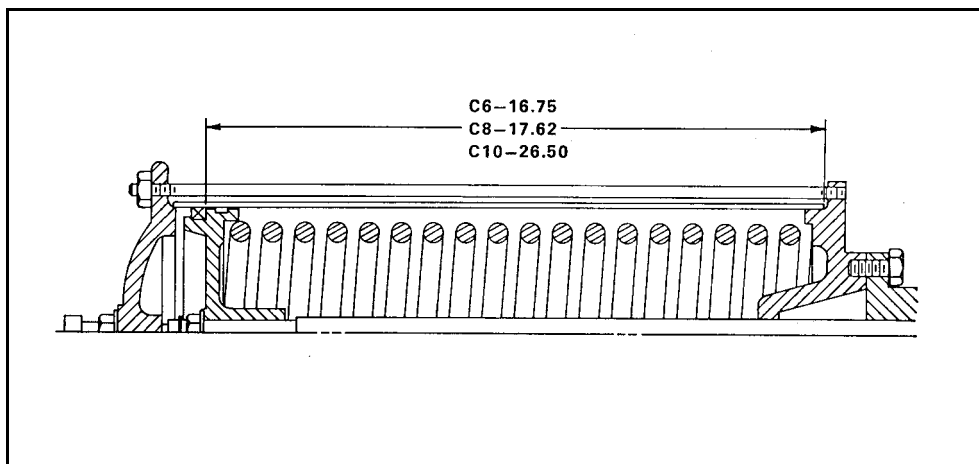

Figure 4— Installed Piston Location
6. Set the spring in place then install the piston. Screw the piston on until the dimension shown in Figure 4 is reached.